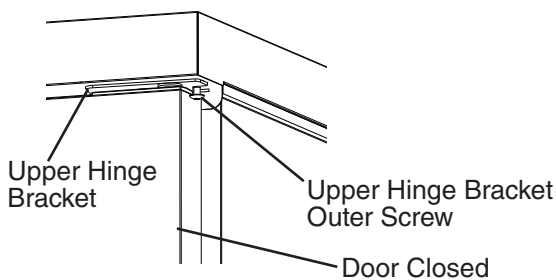
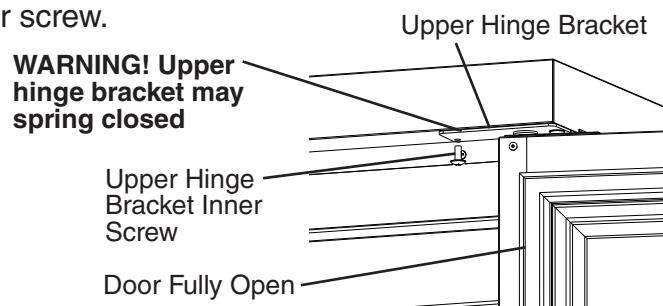

**Fig. 11**
**Fig. 12**
- 2) With the door closed, loosen, but do not remove, the upper hinge bracket outer screw. See Fig. 11. Next, open the door to the fully open position and remove the upper hinge bracket inner screw. See Fig. 12.